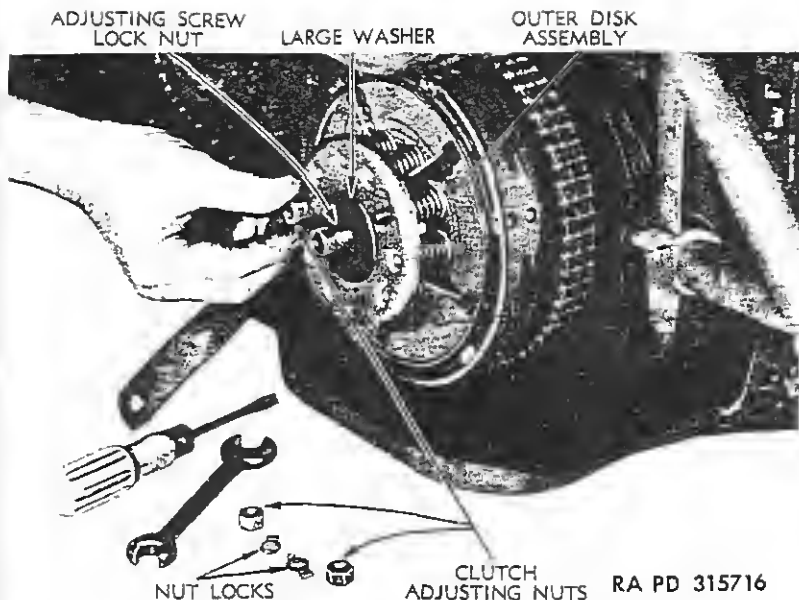
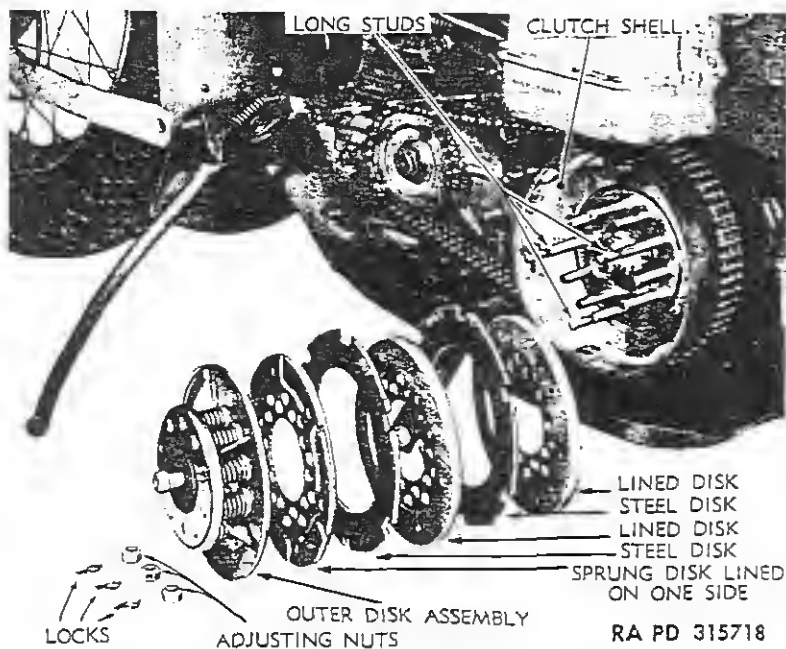

Figure 28—Removing Spring and Outer Disk Assembly
Figure 30—Clutch Disks, Removed
(7) If clutch still does not hold, after correct control and spring tension adjustments have been made, clutch "pack" assembly must be replaced (par. 49).
(8) After making clutch spring tension adjustment, replace outer front chain guard (par. 102).
49. REMOVAL OF DISKS (figs. 28, 29, and 30).
(1) Remove outer front chain guard (par. 102).
(2) Remove push rod adjusting screw lock nut. Place a large flat washer, approximately $\frac{1}{8}$ -inch thick, $1\frac{3}{4}$ -inch in diameter with a $\frac{3}{8}$ -inch center hole, over push rod adjusting screw, and replace adjusting screw lock nut just removed (fig. 28). Tighten adjusting screw lock nut against large washer until the three clutch spring adjusting nuts are free. Bend nut lock down, remove the three adjusting nuts, and withdraw releasing (outer) disk and spring assembly as one unit. Remaining lined and plain steel disks can now be removed from sprocket and clutch shell unit without further disassembly (fig. 30). NOTE: At time lined and plain disks are removed from shell, observe relative position of each disk in order of correct assembly.
(1) To remove springs, remove push rod adjusting screw lock nut, freeing spring collar and the 10 springs from the releasing (outer) disk assembly.
(2) Measure springs for free length. Free length of new clutch springs is approximately $1\frac{1}{2}$ inches (they may vary plus or minus $\frac{1}{32}$ inch). Old springs found to be shrunk $\frac{1}{8}$ inch (total free length of spring is $1\frac{3}{8}$ inch or less) must be replaced with new springs. *NOTE: Before replacing springs, select 10 springs that do not vary more than $\frac{1}{32}$ inch to make up the assembly.*
51. INSTALLATION OF DISKS (figs. 30, 29, and 28).